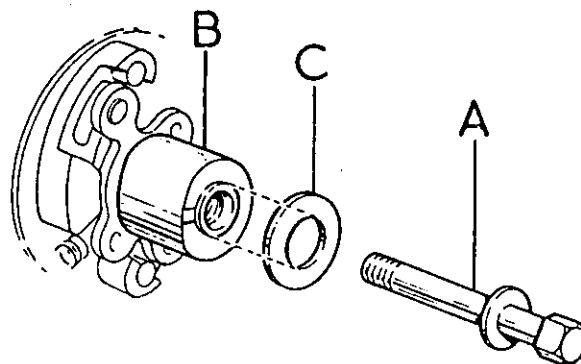

FIG. B.85. Locking ATD unit.
To release the advance and retard unit from the camshaft, insert ATD withdrawal tool (service tool No. 60-782) and screw it in until it releases the taper. To allow the contact breaker cam (B) to be locked in the fully-advanced position, fit a washer (C) having a hole just large enough to clear the cam inner bearing (see Fig. B.85). Then replace the central fixing bolt (A) and original washer.